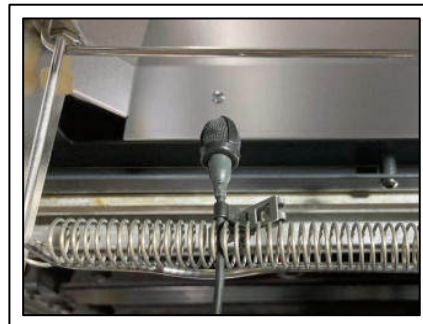

Fig. 5
3. Fix the head of the clip-on microphone or headset in the spiral spring (Fig. 5).